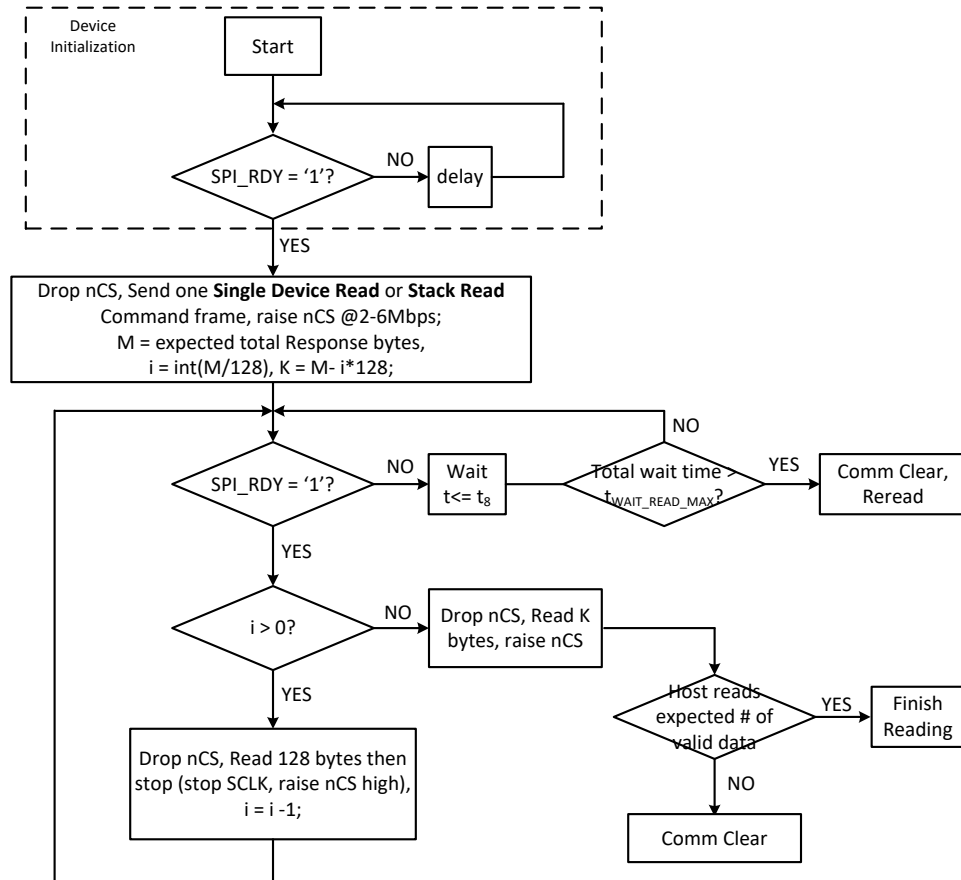
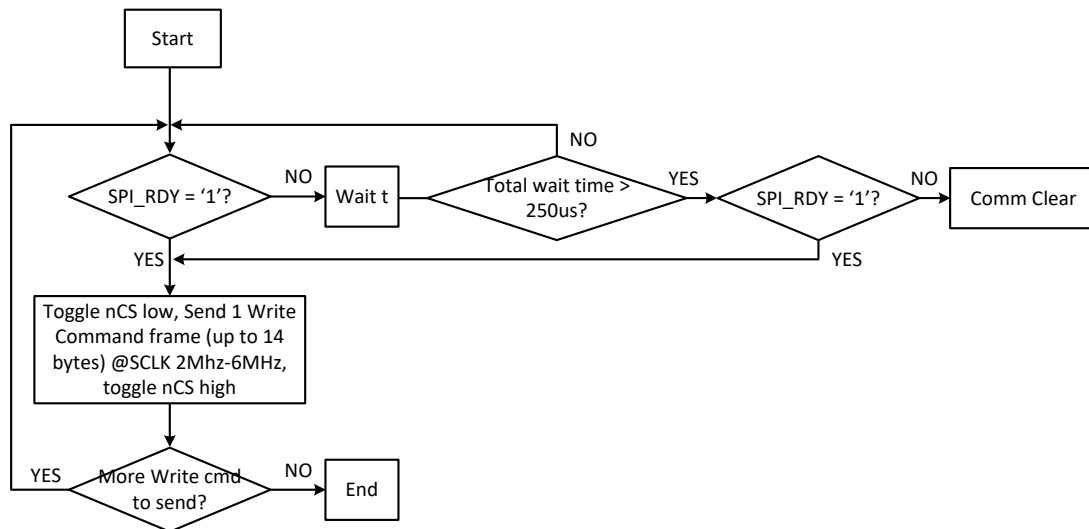

Figure 7-16. Flow Chart to Read from Device
Figure 7-17. Flow Chart to Send Write Command Frame to Device
- To avoid collisions on the daisy chain interface, the MCU must wait until all expected response frames are received (or waiting timer expires) before sending another command frame to bq79600. Refer to flow chart in Figure 7-16.
User shall follow flow chart Figure 7-16 to do read from device and Figure 7-17 to do write to device activities.
- SPI_RDY being low exceeds expected time, either $t_{\text{SPI_RD_WAIT_MAX}}$ in READ mode in Figure 7-16 or when 220 μ s while sending write command frame into device. Don't send Comm Clear before this wait time has elapsed.